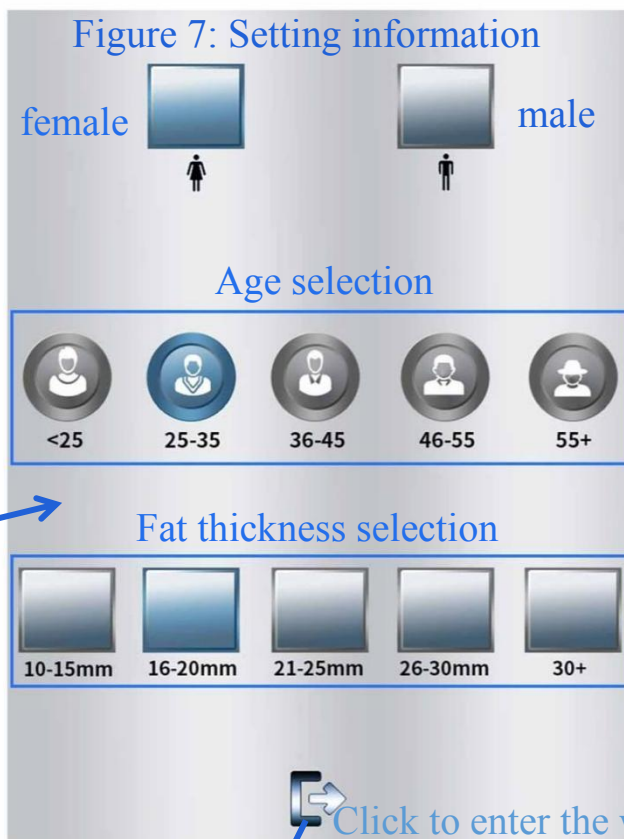

Figure 7: Setting information
(2) Figure 7 Introduction to the cooling work interface: